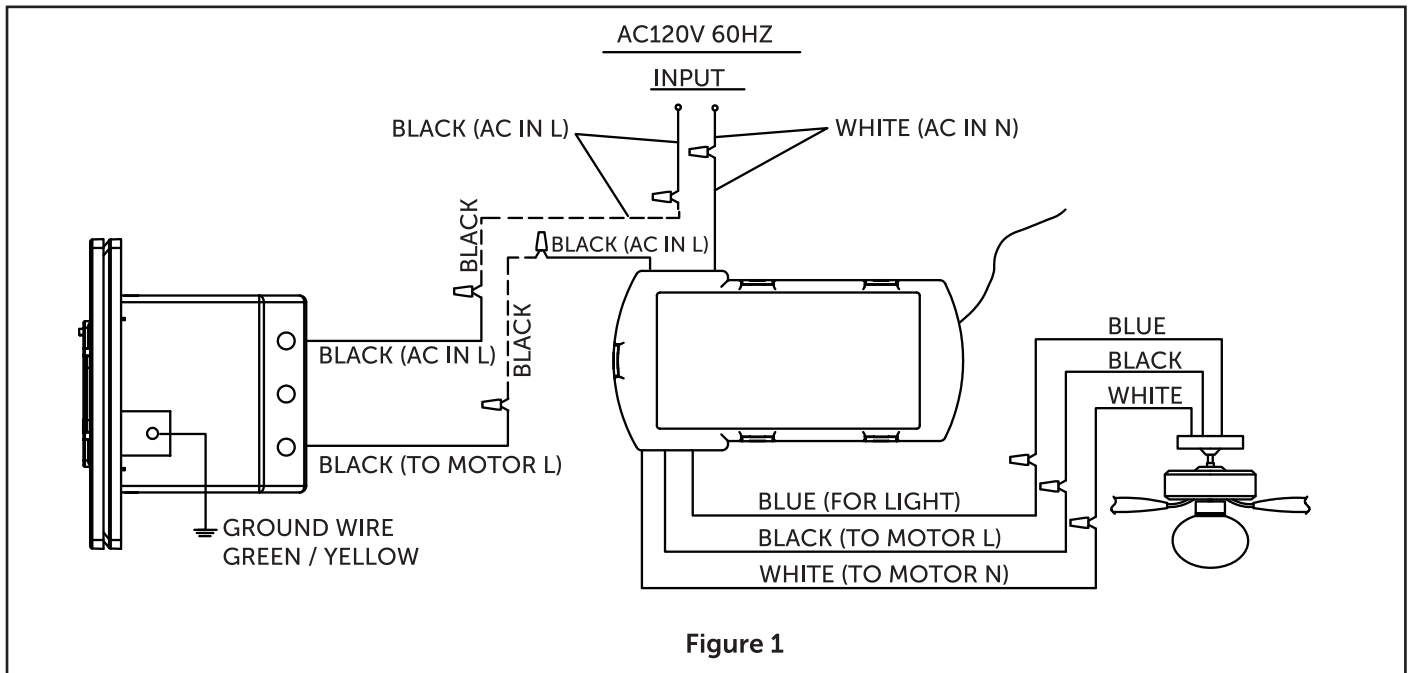

Figure 1
2. Connect wires using connectors as shown in Figure 1.